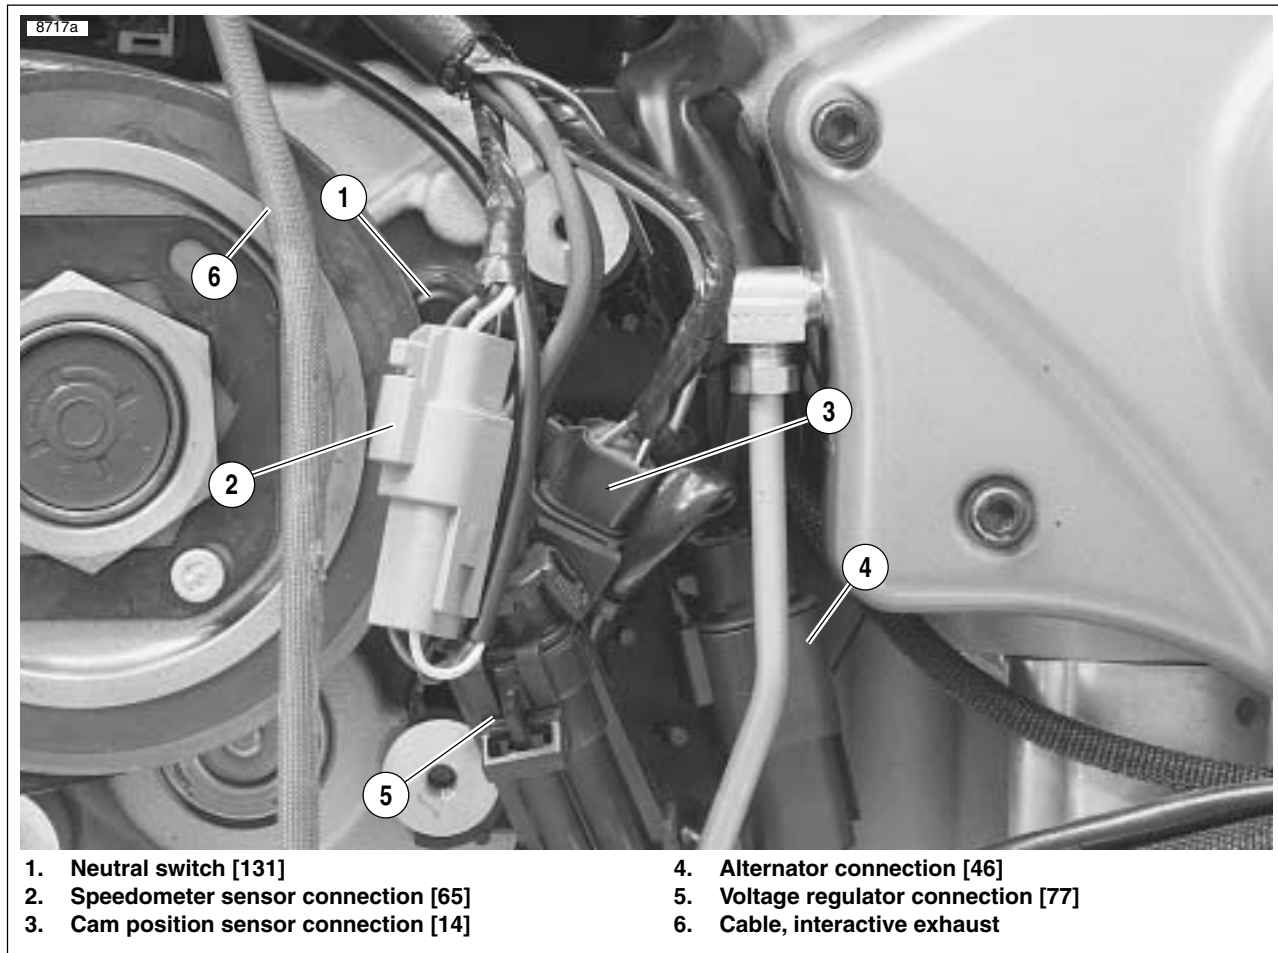

Figure 3-54. Electrical Connections
31. See Figure 3-54. Connect the following electrical components: